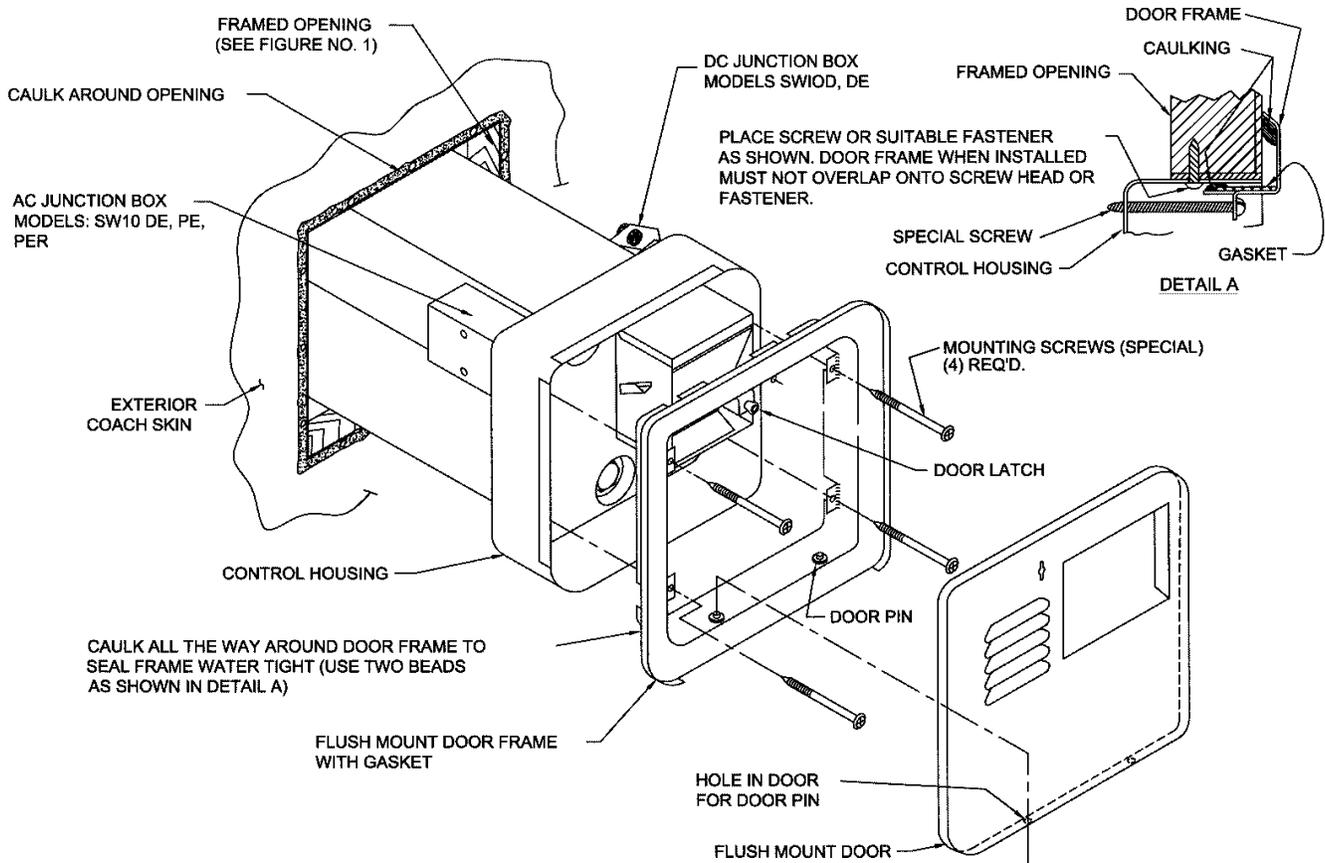

Figure 2
INSTALLATION USING FLUSH MOUNT FRAME & DOOR (See Figure 2 for Illustration)
B. Refer to Figure 2 for location of A.C. junction box.